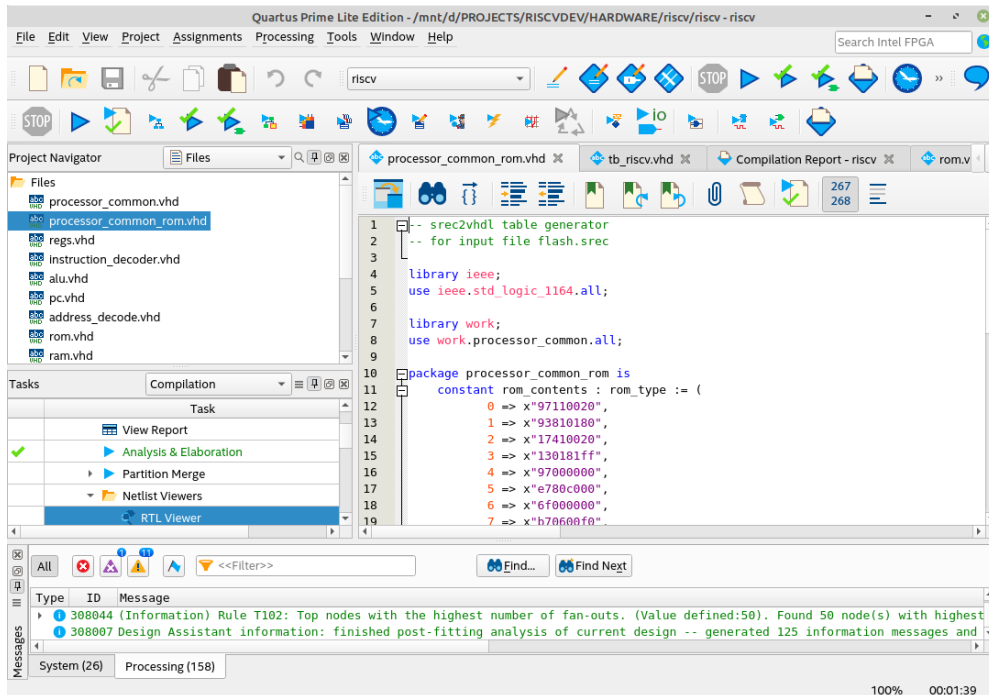

Figure 2: Image of the Quartus project (1).
- Now start the compilation of the VHDL code in Quartus Prime Lite and program the compiled file. This file has the extension `.sof`. See Figures 2 to 4.